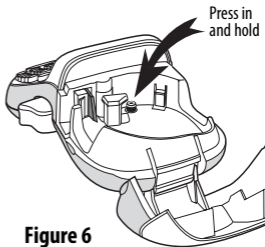

Figure 6
2. Place the tip of a ball-point pen or pencil on the black post as shown in Figure 6, and press the post down.